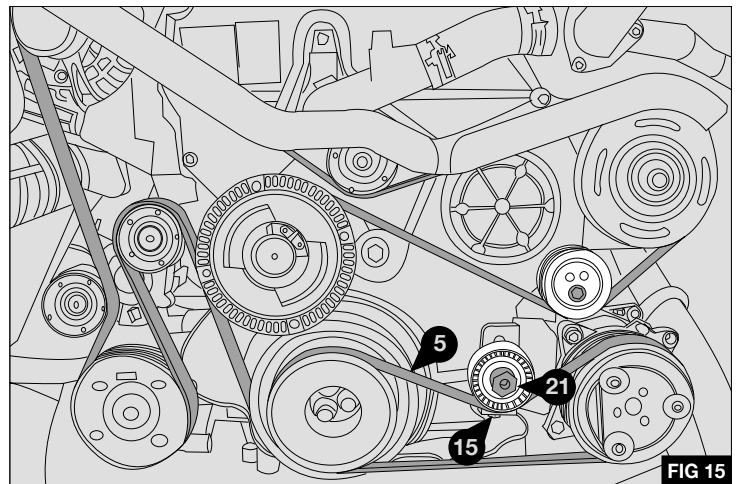

FIG 15
2. Install the supplied compressor drive belt (5) as detailed in Fig 15
4. Once the correct tension has been attained, lock the idle pulley assembly with nut (21) - Fig 15
5. Torque nut (21) to 35 Nm